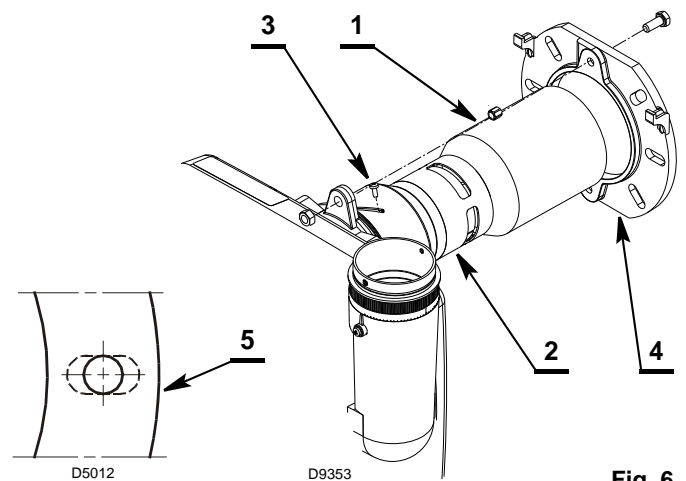

Fig. 6
- Fit the flame pipe 1) (Fig. 6) to combustion head assembly 2).
- Put on the flange 4) the screw and two nuts (Fig. 6).
- If necessary, widen the insulating gasket holes 5) (Fig. 6), taking care not to damage them.